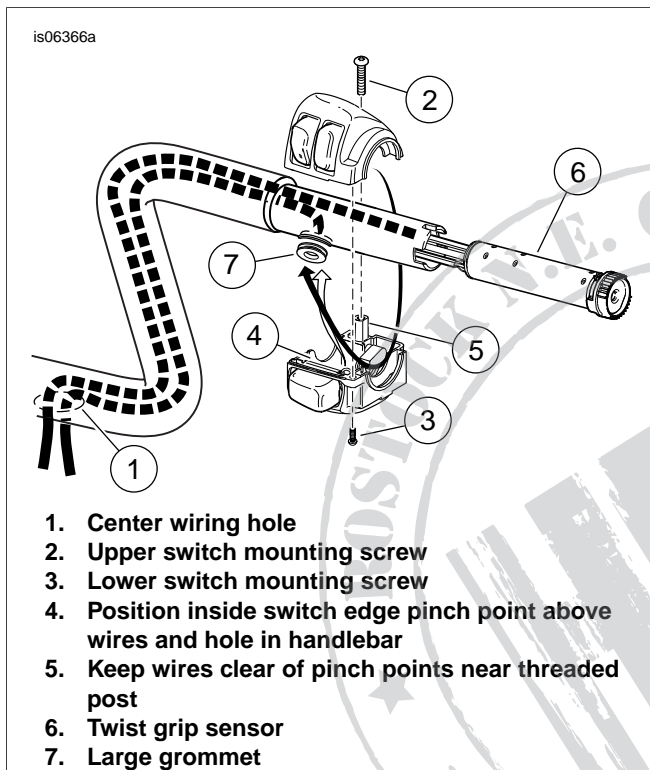

Figure 7. Switch Housing and Twist Grip Sensor Wire Routing (2008 and Later Touring)
21. See Figure 7. Feed the twist grip sensor wire bundle into the right-side handlebar end and toward the large opening in the center of the bar, while fitting the index tabs on the twist grip sensor into the slots on the end of the handlebar. Different-sized tabs and slots prevent improper assembly.